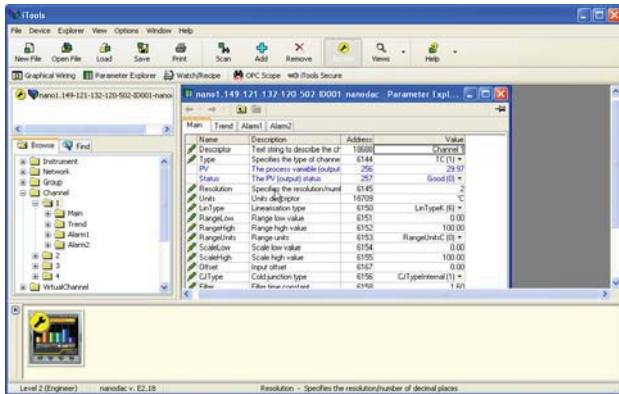

Figure 6.4a Parameter table example
In each case the function block parameters appear in the iTools window in tabular form, such as the example in figure 6.4a, below.
- Columns. The default explorer window (figure 6.4a) contains the columns 'Name', 'Description', 'Address', 'Value', and 'Wired From'. As can be seen from figure 6.4b, the columns to be displayed can be selected, to a certain extent, using either the 'Explorer' menu or the context menu.